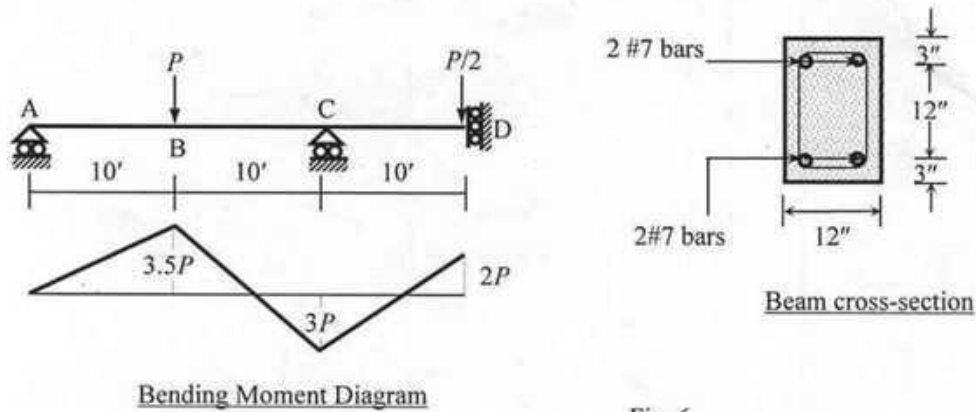

Fig. 6
13. Use the bending moment diagram to calculate the force  $P$  needed to develop plastic hinge mechanism in the reinforced concrete beam ABCD loaded as shown in Fig. 6 [Given:  $f'_c = 3$  ksi,  $f_y = 50$  ksi].